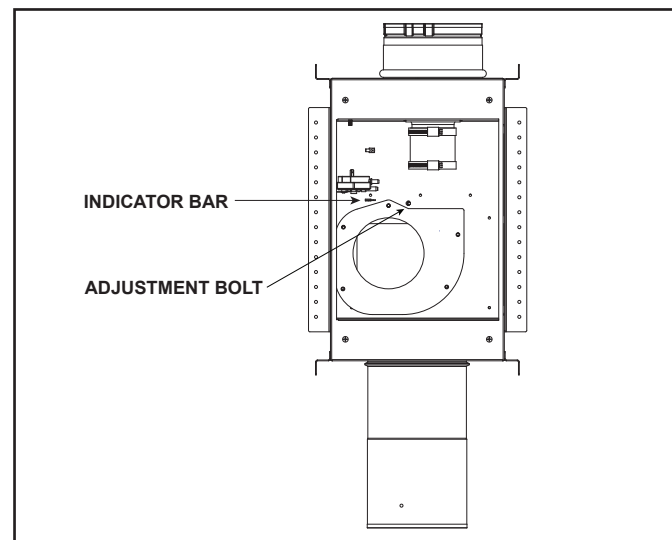

Figure 4.17 Baffle Adjustment Location - PVI-SLP-B
**PVI-SLP-B:** The baffle adjustment is measured using the holes on the indicator bar of the PVI-SLP-B baffle. This bar raises as the baffle is opened and lowers as the baffle is closed. Adjust the baffle by turning the screw located in the motor enclosure. See Figure 4.17 and 4.18.